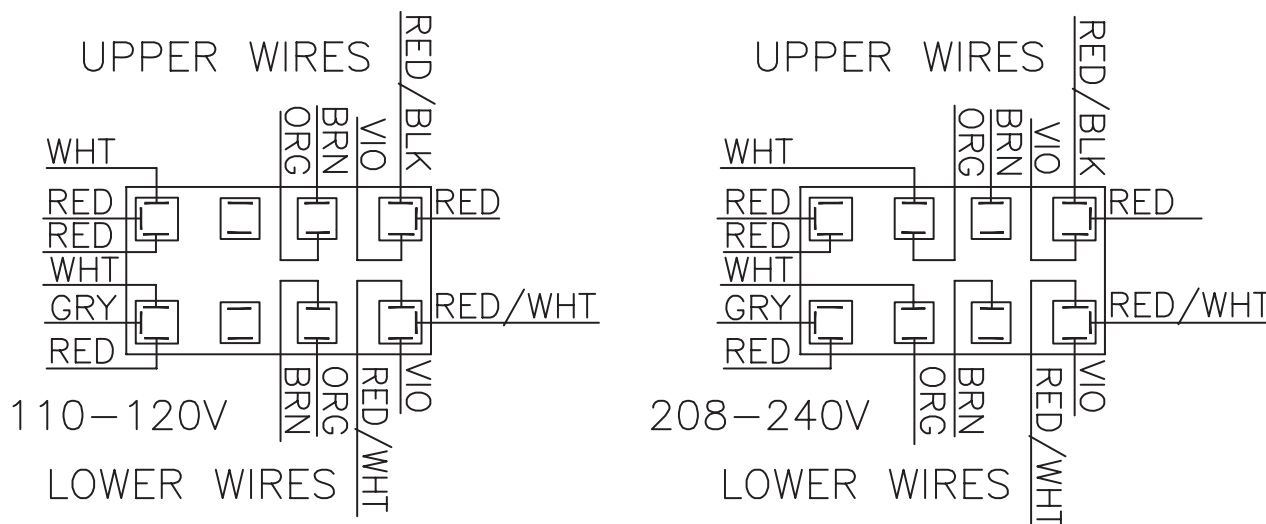

Figure 1 Middle Terminal Block
4. Move the white wire of the upper motor harness to an upper inner left terminal in the middle terminal block in the control box assembly. See Figure 1 below.
5. Move the orange wire of the upper motor harness to an upper inner left terminal in the middle terminal block control box assembly. See Figure 1 below.
6. Move the white wire of the lower motor harness to a lower inner left terminal in the middle terminal block in the control box assembly. See Figure 1 below.
7. Move the orange wire of the lower motor harness to a lower inner left terminal in the middle terminal block control box assembly. See Figure 1 below.